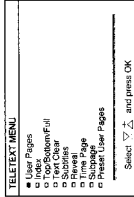

Fig. 34
- 1 Press MENU. The menu will be superimposed on the teletext display. (See Fig. 34)